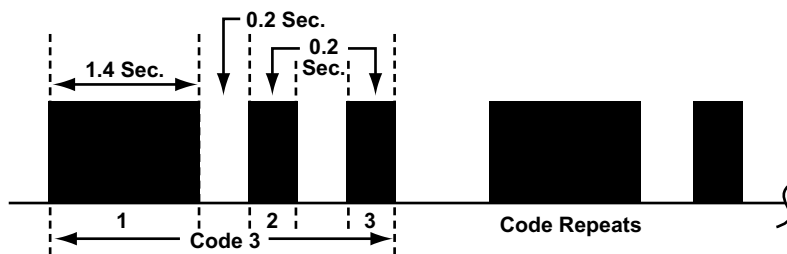

Figure 10-18 Isuzu RWAL ABS Code Type
- Rear wheel antilock (RWAL), see Figure 10-18 and Table 10-5 on page 90